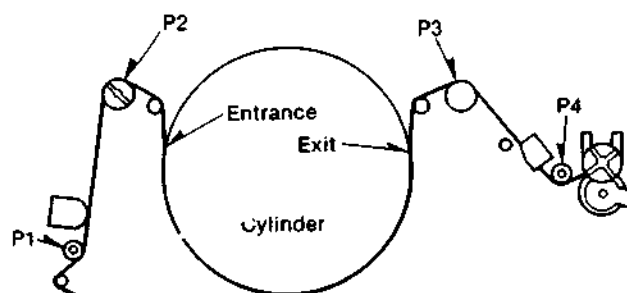

Fig. 2-27
- If the FM envelope does not meet the specification ($V1/V \geq 0.7$; $V2/V \geq 0.8$) see Fig. 2-27, repeat above mentioned adjustments A to F.